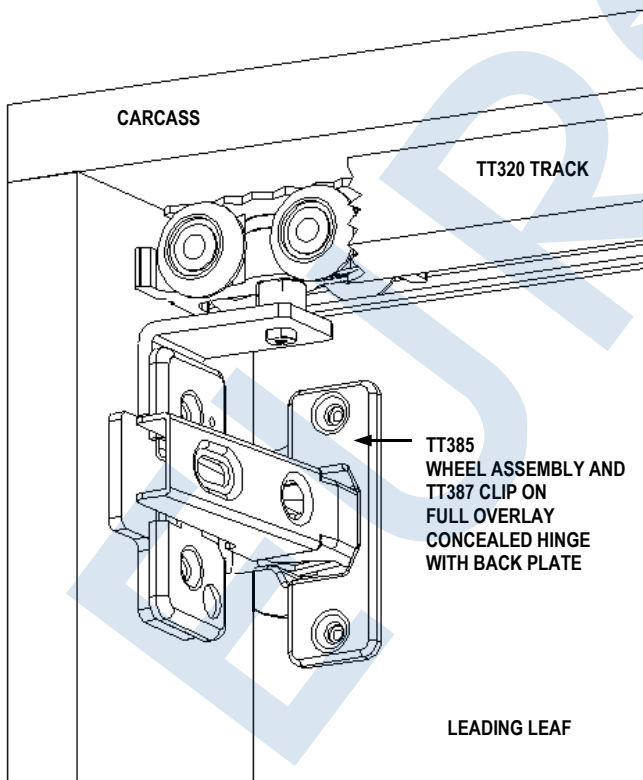

FIG. 5 - WHEEL ASSEMBLY WITH CONCEALED HINGE (Showing Track Cut Away)
- 4) CUT TRACK TO LENGTH TO SUIT INTERNAL CARCASS WIDTH, AND PLACE WHEEL ASSEMBLY WITH BACK PLATE INTO TRACK, BY ENSURING BRACKET IS POSITIONED IN THE CORRECT DIRECTION AS SHOWN IN FIG. 5.